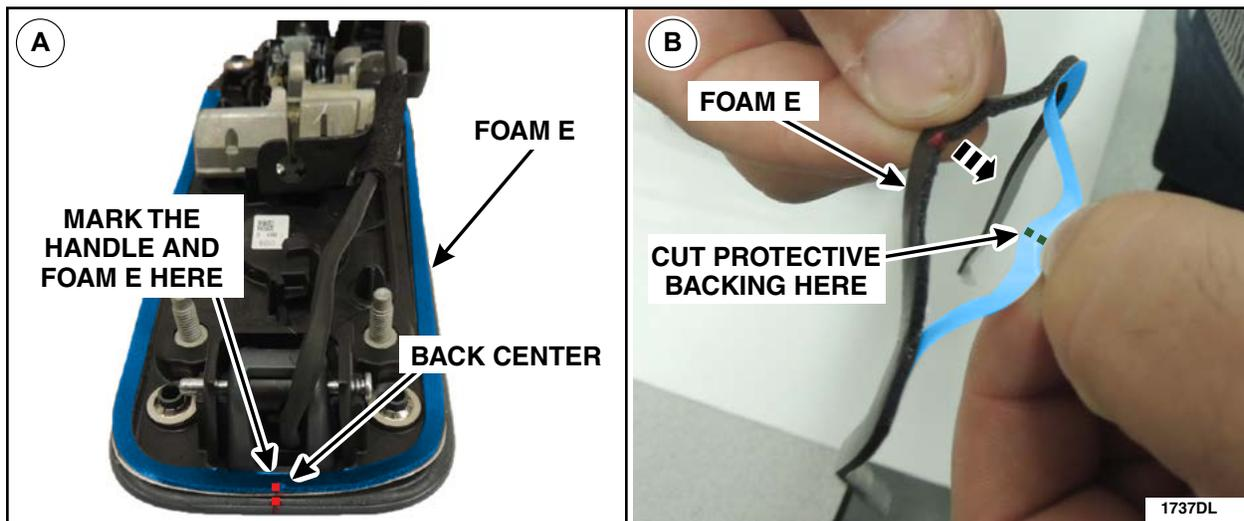

FIGURE 46
- A. Lay out Foam E on the exterior door handle and mark center as shown in Figure 46.
- B. Remove Foam E from the door handle and remove the back center portion of the adhesive backing then cut the protective backing in half. See Figure 46.